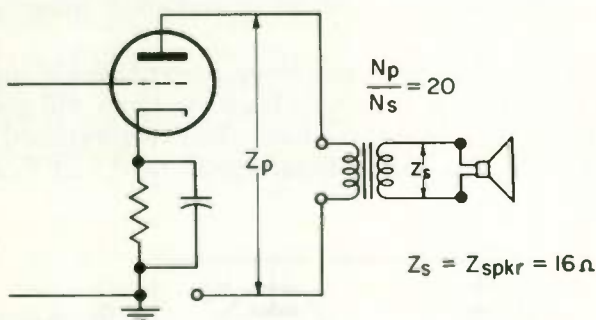

Fig. 16
3. In Fig. 16, a 16-ohm speaker is connected to the low-impedance side of an output transformer with a 20 to 1 turns ratio. For a proper match the plate resistance of the tube should be _____ ohms.